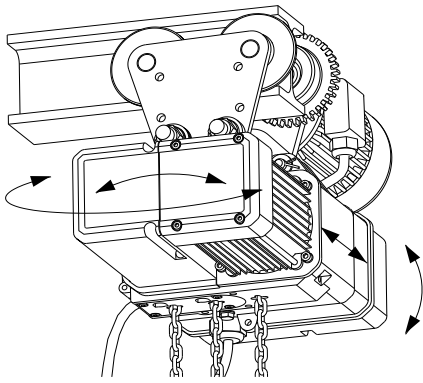

Figure 23: Flexibility between chain hoist and trolley
**Caution!** Movement in the directions shown by the arrows in Figure 23 must still be possible between the hoist and the trolley when assembly is complete.